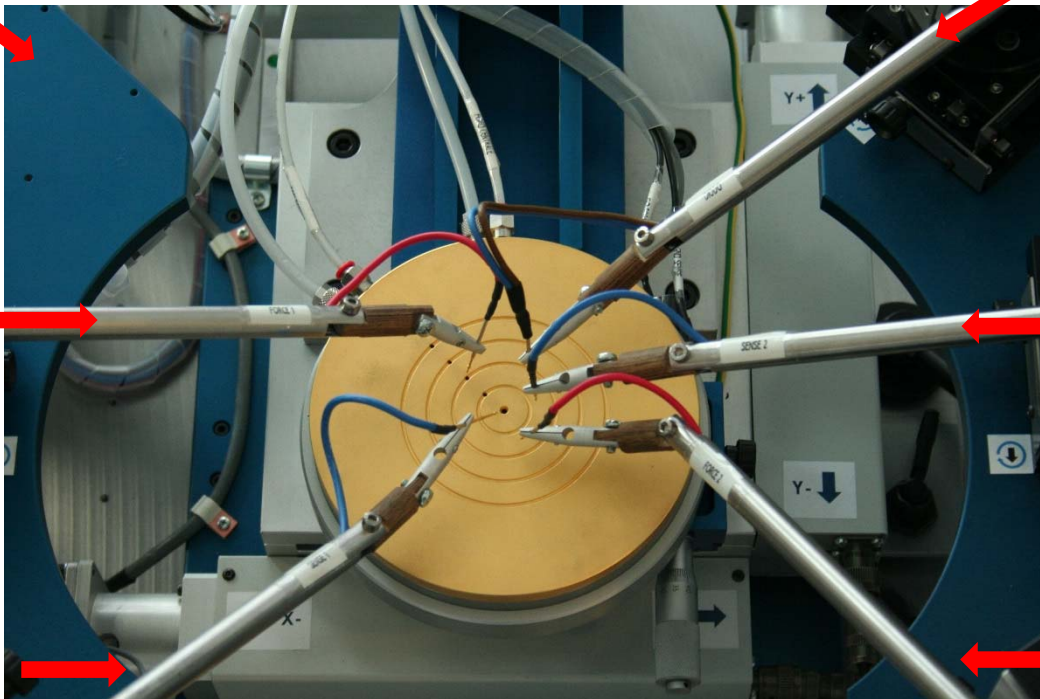

Figure 1 –test needles
- A system consisting of 5 needles for the connection of the active load to the cell. Figure 1 shows the position of the 5 needles with their respective functions: